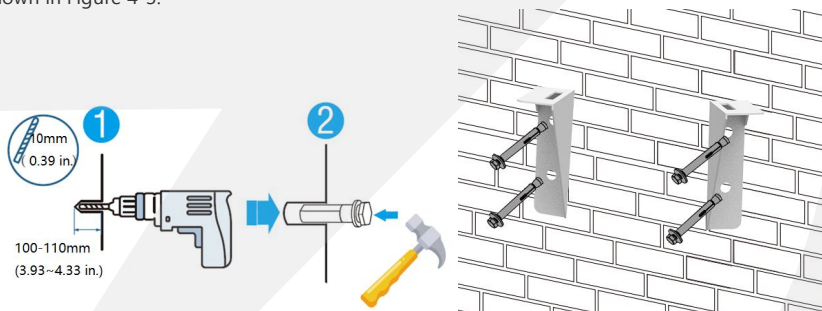

Figure 4-3
- b) Choose the recommend drill head (as shown in Figure 4-3) to drill 4 holes on the wall, 100mm-110mm deep.
c) Use a hammer to secure the support to the wall, and install the expansion bolt in the hole, as shown in Figure 4-3.